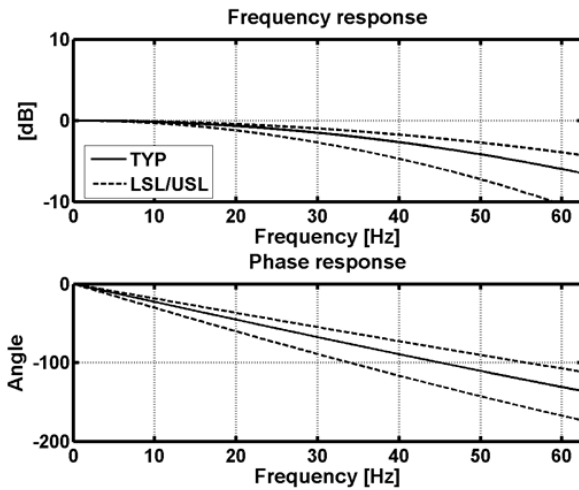
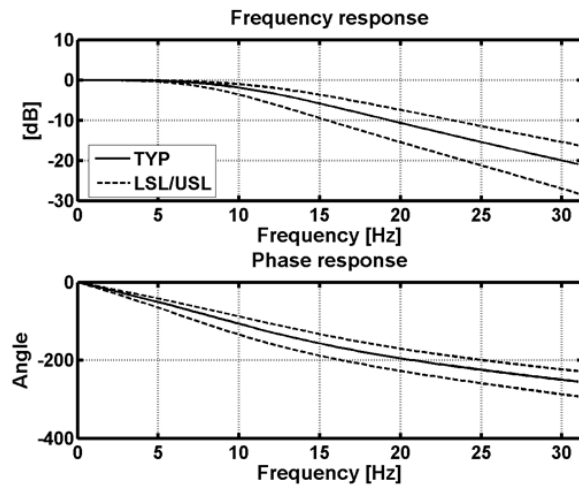

Figure 3 Frequency response of SCA3000-E02 in measurement mode
Figure 4 Frequency response of SCA3000-E02 in bypass measurement mode
10) Frequency responses according to Figure 3 and Figure 4.